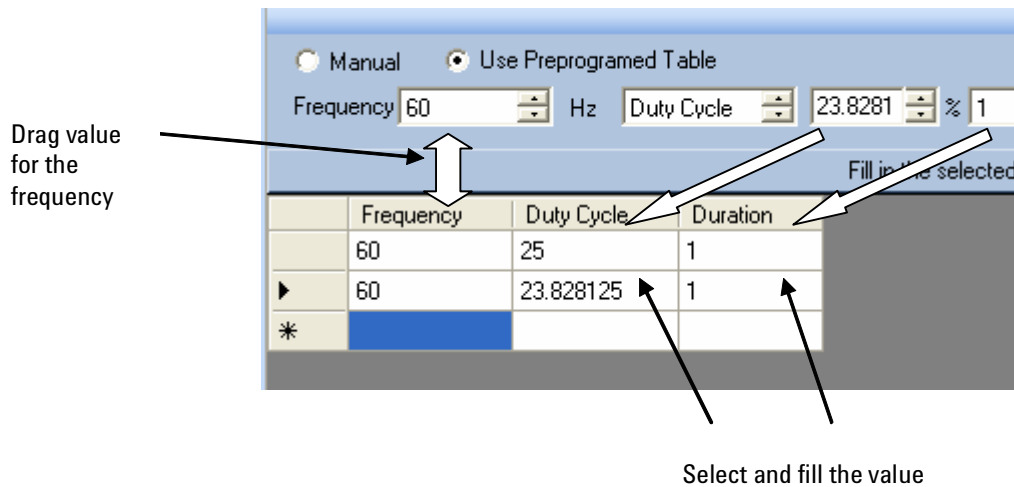

Figure B-14 Square wave program settings
- 3 Select the respective Duty Cycle and Duration column cell, then click **Fill in the selected cell** button to input the parameters (figure B-14).